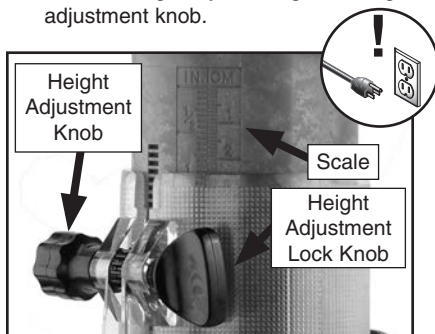

Figure 5. Height adjustment knobs.
2. Loosen the lock knob shown in **Figure 5** and adjust the base to approximately desired height by rotating the height adjustment knob.